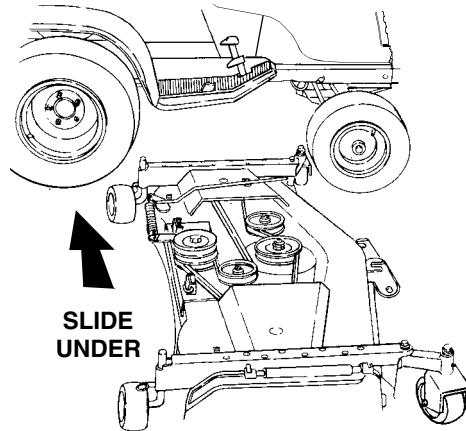

Figure 28
3. Position the deck on the right side of the tractor with the front of the deck facing toward the front of the tractor (Refer to Figure 28).